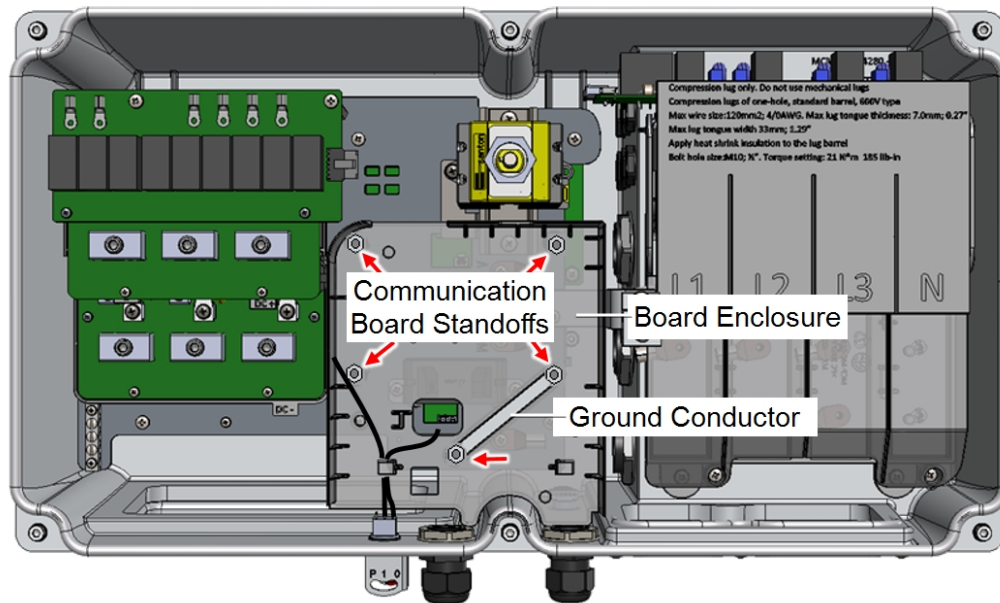

Figure 3: Communication Board Standoffs
2. Route the switch wires through the communication board enclosure and reconnect the wires (see Figure 3).
3. Position the communication board enclosure and fasten the five standoffs with a torque of 1.3 N*m (0.96 lb*ft) (see Figure 3).
Make sure to position the Ground conductor under the standoffs (see Figure 3).